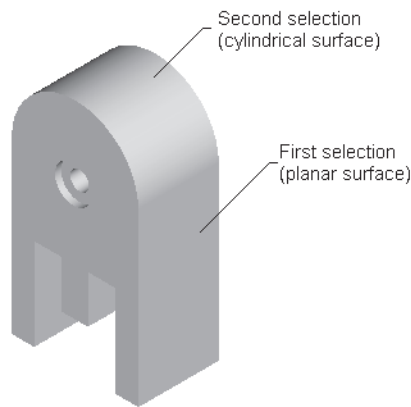

Figure 4-18 Selecting a planar surface and a cylindrical surface to create a datum plane
Figure 4-18 shows a planar face and a cylindrical face of a solid model. The planar face is selected as the normal surface and the cylindrical face is selected to be tangent to the datum plane. The following steps explain the procedure to create this datum plane:
1. Invoke the **DATUM PLANE** dialog box. Select the first reference shown in Figure 4-18. The **Offset** constraint is automatically applied and displayed in the **References** collector.
3. Now, use CTRL+left mouse button to select the second reference shown in Figure 4-18. The **Through** constraint will be displayed in the **References** collector.